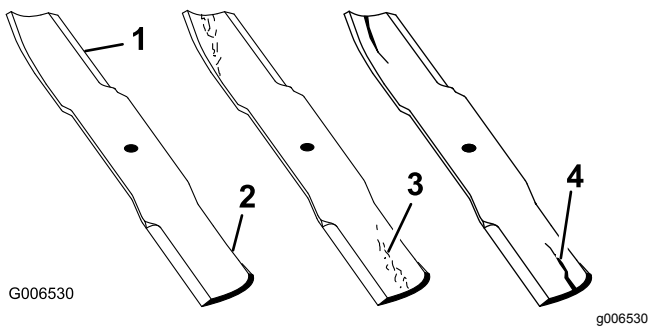

Figure 110
1. Inspect the cutting edges (Figure 110).
4. If you notice any cracks, wear, or a slot forming in this area, immediately install a new blade (Figure 110).